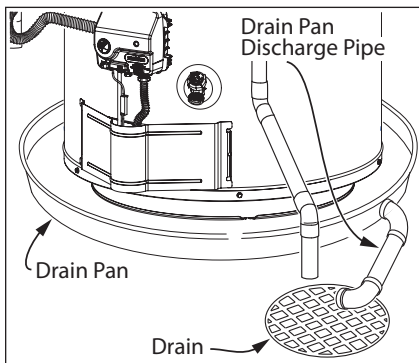

Figure 27 - A metal drain pan piped to an adequate drain can help protect flooring from leaks and drips.
- In a metal drain pan piped to an adequate floor drain or external to the building (Figure 27).